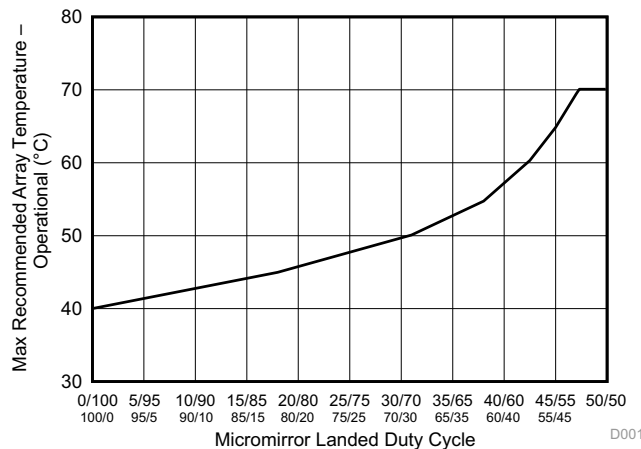

Figure 1. Max Recommended DMD Temperature – Derating Curve
- (12) Per Figure 1, the maximum operational case temperature should be derated based on the micromirror landed duty cycle that the DMD experiences in the end application. Refer to Micromirror Landed-on/Landed-Off Duty Cycle for a definition of micromirror landed duty cycle.
- (13) Long-term is defined as the average over the usable life of the device.
- (14) Short-term is defined as less than 60 cumulative days over the over the usable life of the device.